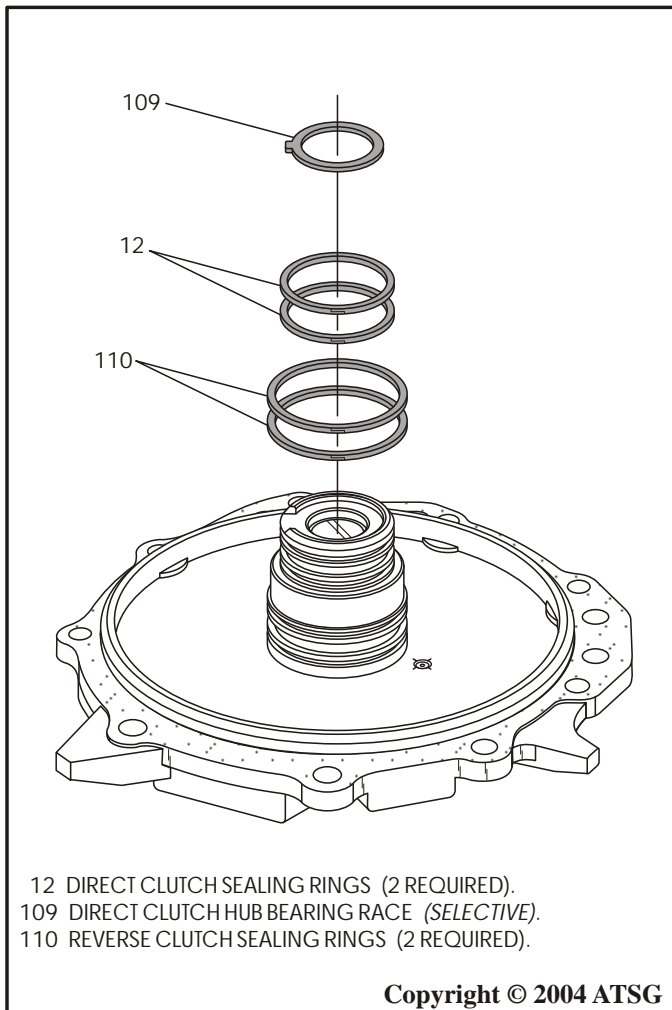

Figure 72
4. Install new reverse clutch sealing rings into the grooves, as shown in Figure 72, and ensure that they are properly seated.
5. Install new direct clutch sealing rings into the grooves, as shown in Figure 72, and ensure that they are properly seated.
6. Install the selective direct clutch hub bearing race, as shown in Figure 72, and retain with a small amount of Trans-Jel®.